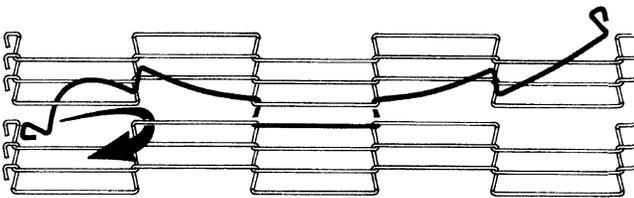

Figure 89: Spreading Splicing Link Apart
- Tighten the ties to bring either end of the wire belt closer together until the ends meet, then pull the ends of the splice through the links of the wire belt and spread the splice link ends apart. Refer to Figure 89.